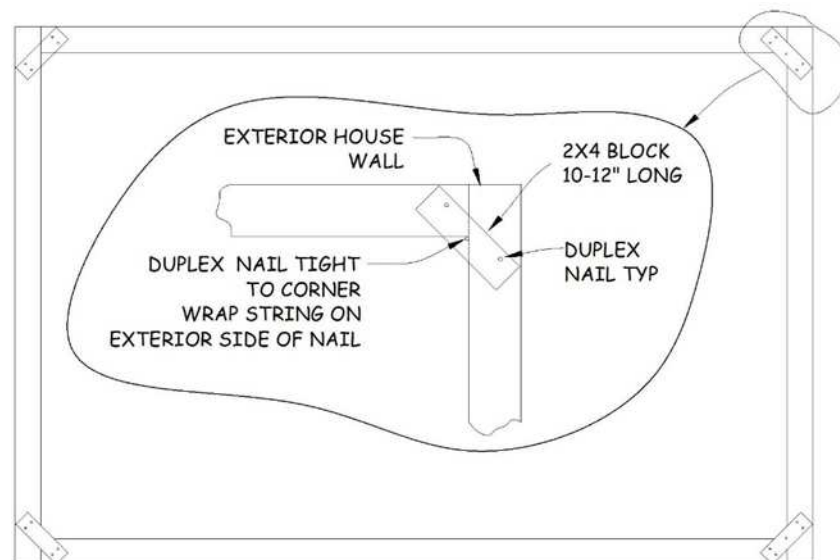

Figure 5-4. Installing String Line.
5. Place the 2x4 piece on top of the 2x6 upper plates at roughly a 45° angle so that the protruding end of the 16d duplex nail rests tightly against the "inside" corner of the upper plates of both walls (see Figure 5-4).